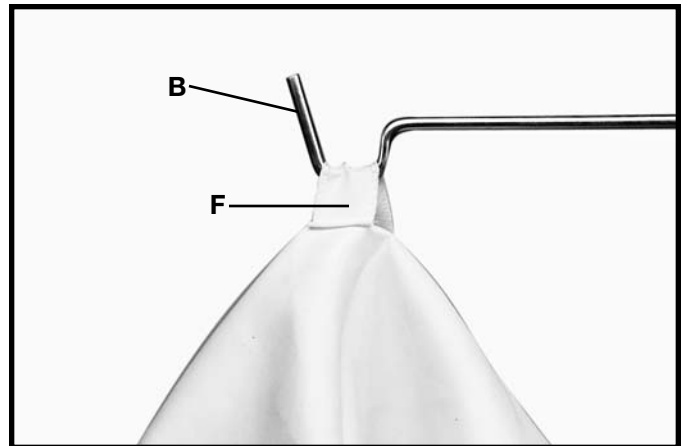

Fig. 14
| 5. Upper bag (bag with loop see Fig. 14) | 13. 5/16 Lockwasher (12) |
2. Hook the loop on the top of filter bag (F) Fig. 14, onto the end of support rod (B).